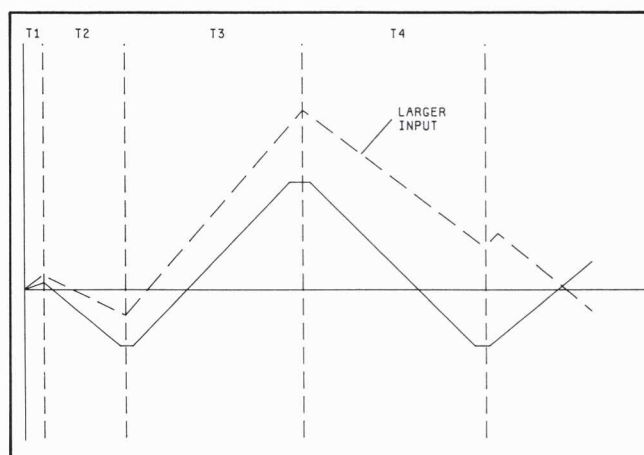

Figure 7-10. Integrator Output Slopes
c. When time T2 is completed, the inguard controller determines if the output slope has crossed zero. Since zero crossing is detected, a current with the same value as the previously applied current, but at opposite polarity (same polarity as input current), is then applied for time period T3. This current plus the input current then charges C201. Since both currents charge C201, the output slope becomes steeper and, as shown in Figure 7-10, crosses zero.